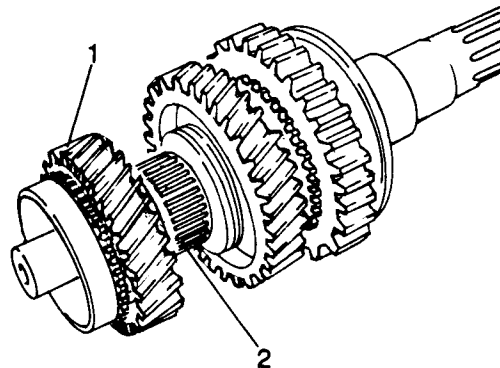

Fig H1.141
- (4) Refer to Fig H1.141. Remove the 3rd speed gear (1).
- (5) Remove the 3rd speed gear roller bearing (2).